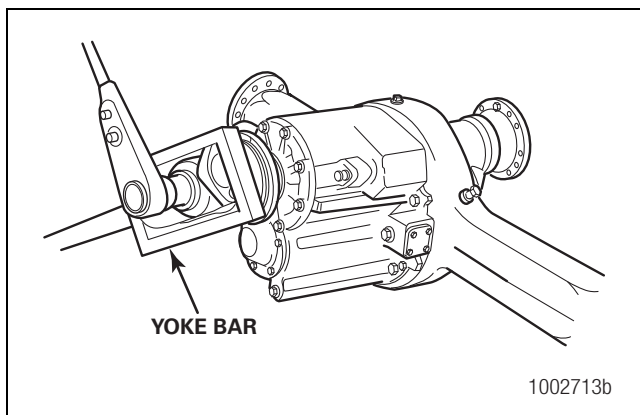

Figure 6
1. Attach a flange bar or place a yoke bar over the input yoke to hold the yoke or flange while you remove the nut. Always use a flange or yoke bar during removal and installation of the flange yoke nut to prevent damage to the gearing. Figure 6.